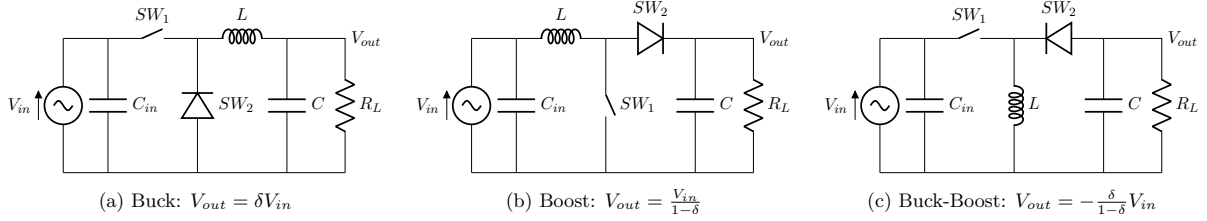

Figure 5.1: The three basic DC–DC converters (SW_1 = nMOS, SW_2 = diode). The Switching Controller (not shown) sets δ by PWM.
2. **Solve δ** from the CCM transfer function (Fig. 5.1); get the *range* of δ from the V_{in} range.